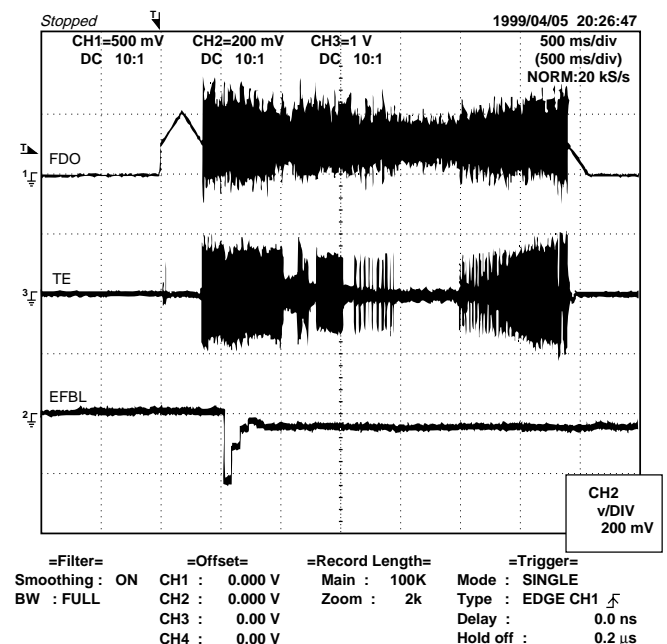

Figure 11-2
- Tracking balance adjustment (waveform drawing Fig.11-2 EFBL)